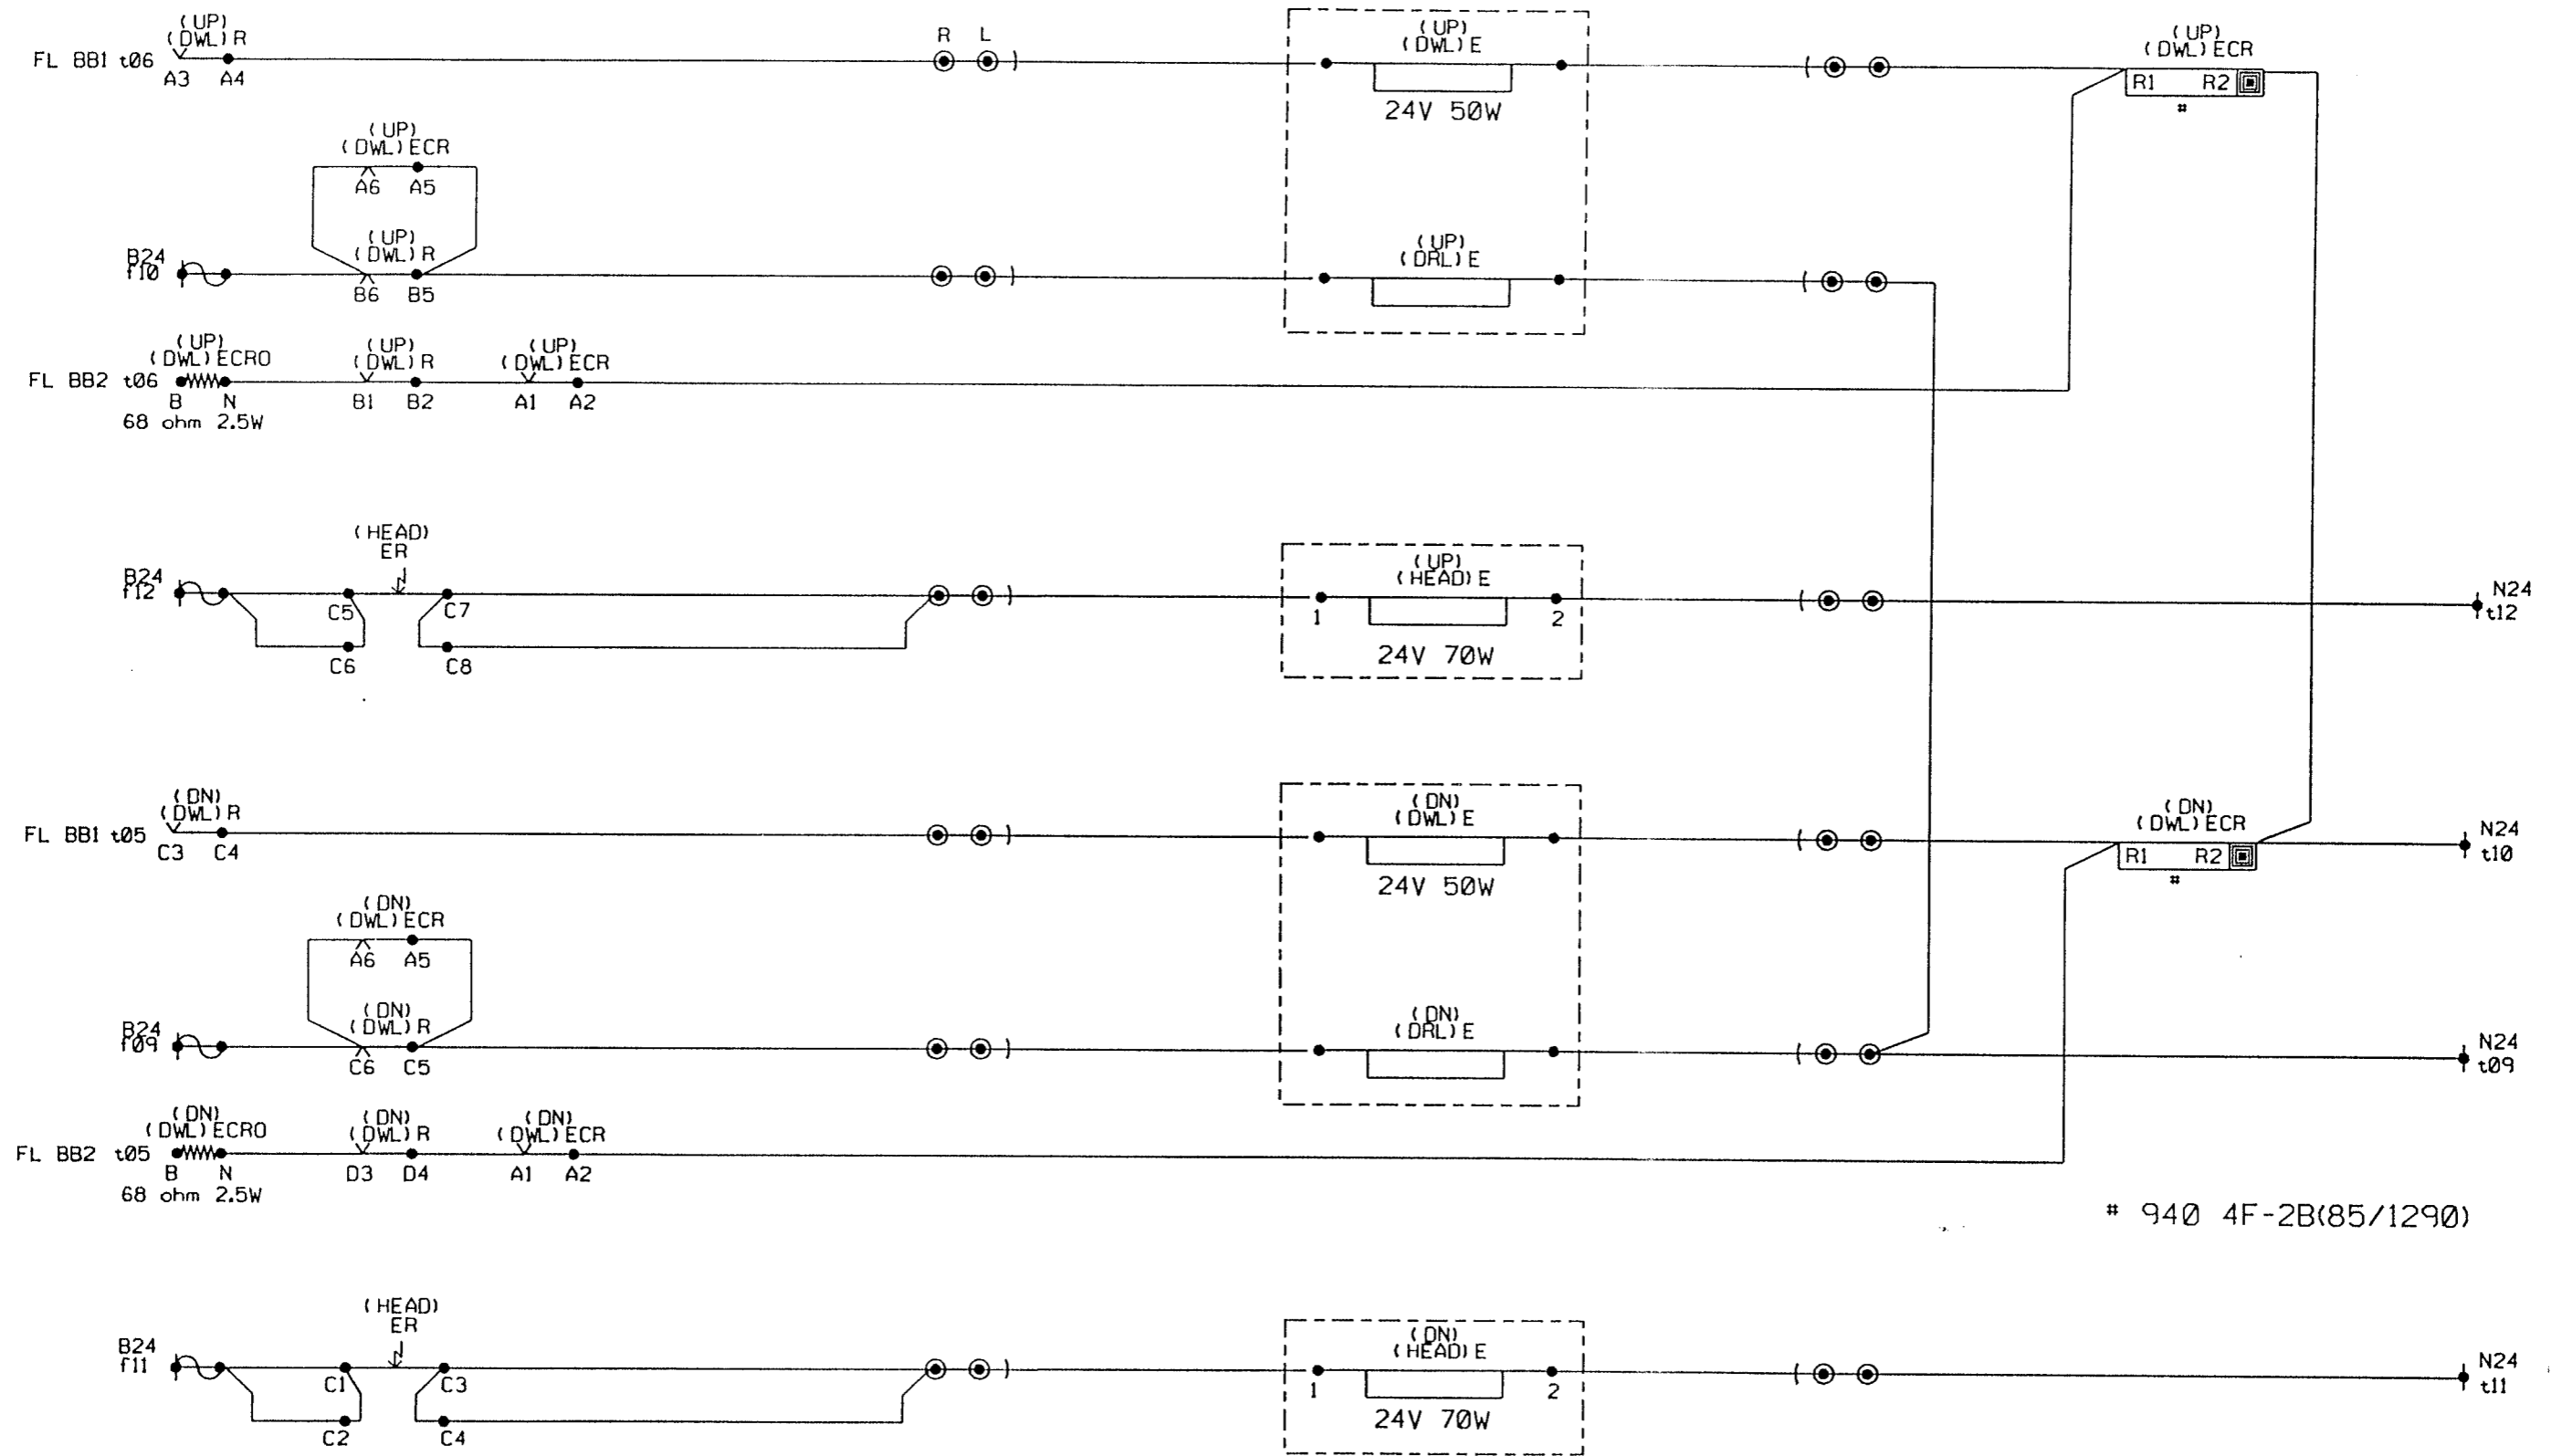

FIGURE 21
This is selective in as much as the energisation of the (DN)(DWL)R will only change the drivers flashing red light to a flashing white light in the DN direction. The drivers flashing red light will continue to be displayed in the Up direction (Figure 21).
When the (CON)SR energised the (MROT)JPR (Figure 18) de-energised, this allows the HER (Figure 17) to energise. The HER energised will silence the audible warning (Figure 19), and de-energise the (HEAD)ER (Figure 17) extinguishing the train simulated headlights (Figure 21).
After 180 seconds the (DWL)YJR and (DWL)YJPR will de-energise followed by the (DWL)CR (Figure 18). The de-energised (DWL)CR will de-energise the (DN)(DWL)R and this will extinguish the driver's flashing White light and illuminate the driver's flashing Red light (Figure 21).